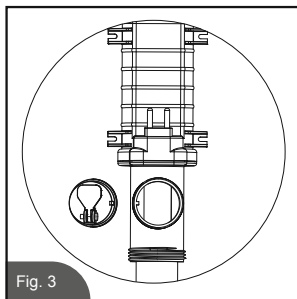

Fig. 3
2. Clean the deposits and debris on the surface of the flow sensor with a garden hose. (use a plastic brush if necessary, but never a metal one) (See Fig. 3)